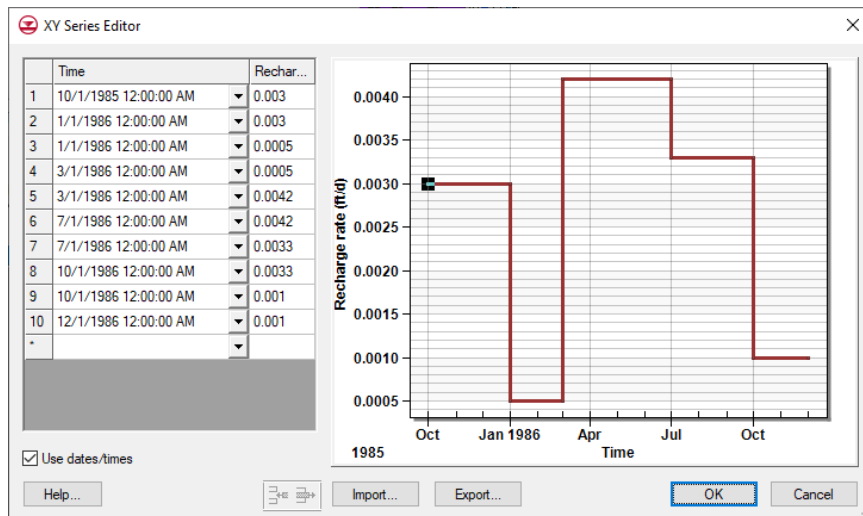

Figure 6: XY Series Editor showing recharge rate for zone 3
11. In the *Recharge rate (ft/d)* column, click the  button to open the *XY Series Editor* dialog. A time series curve of the imported data will appear which should match Figure 6.